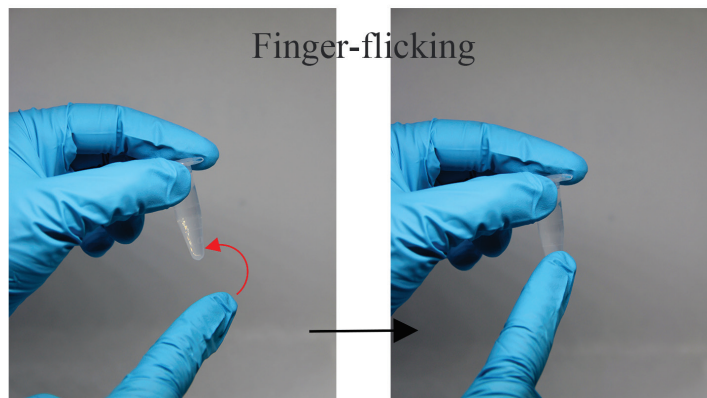

Fig. 6
3. Finger-flick (Fig. 6) the *E. coli* broth culture tube to re-suspend the cells. Use a P1000 micropipette[#] and a new sterile tip to transfer 1.5 ml of this culture to each of the labelled micro-centrifuge tubes.
8. Gently finger-flick the tubes[^] (Fig. 6) to avoid any cell sediment at the bottom of the tubes.